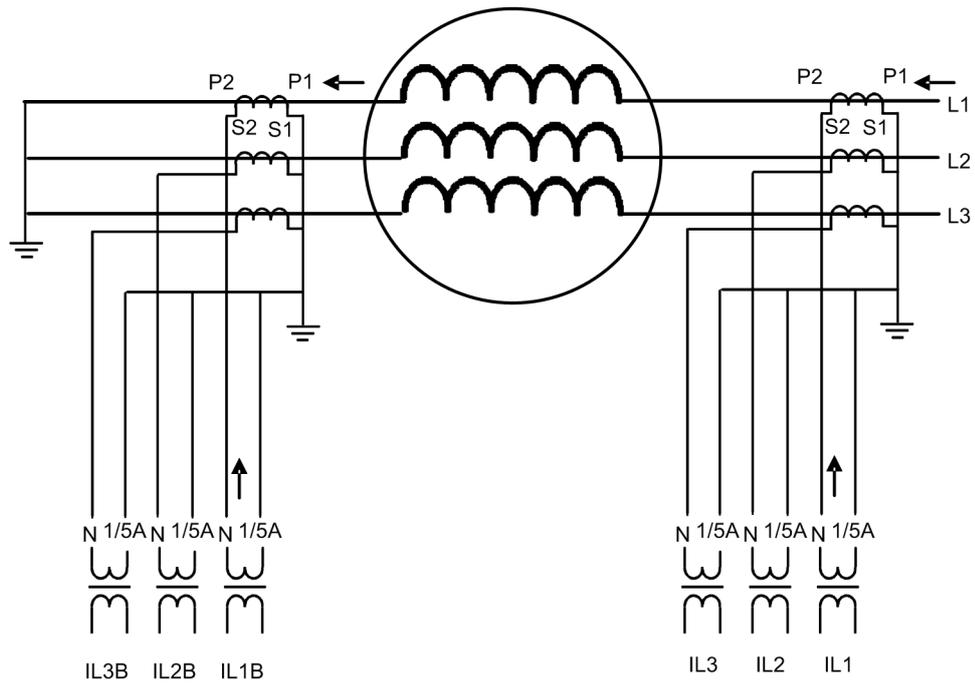
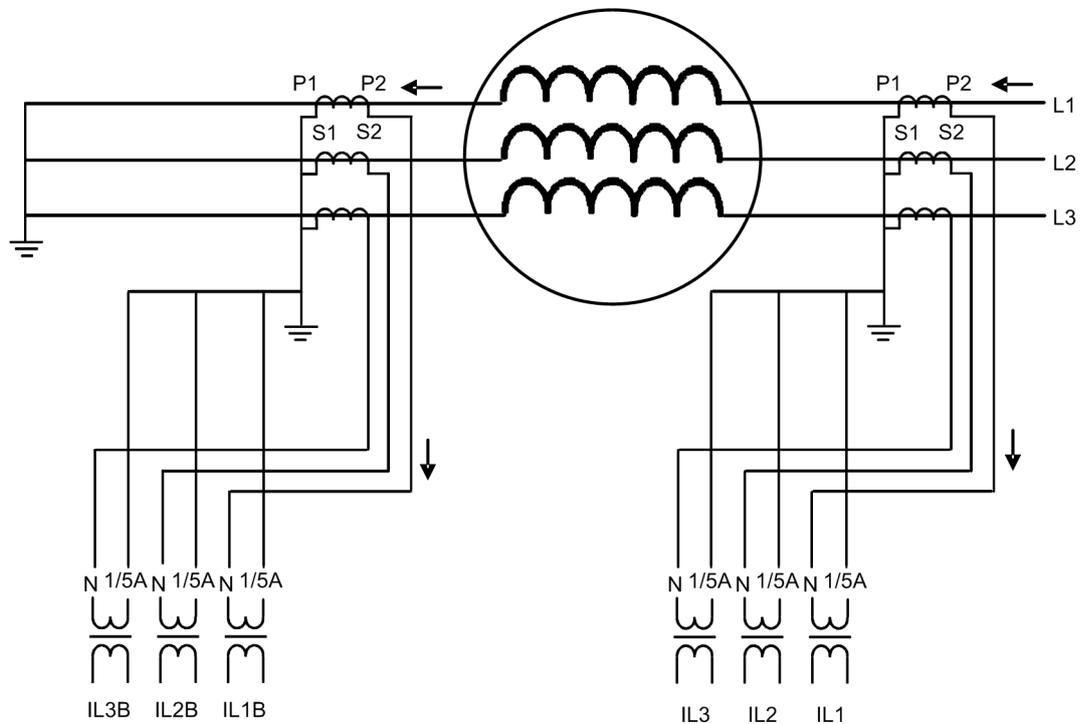

Figure 262: Connection of current transformer of Type 2, example 1
Figure 263: Connection of current transformer of Type 2, example 2
- If the positive directions of the winding 1 and winding 2 protection relay currents equate, the *CT connection type* setting parameter is "Type 2". The connection examples of "Type 2" are as shown in figures Figure 262 and Figure 263.